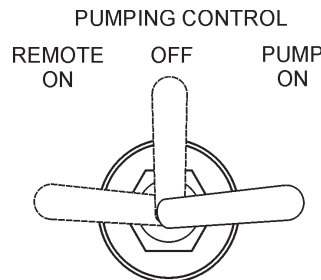

Figure 24. Pumping Control Switch (ON)
9. To begin pumping concrete. Place the pumping control switch (Figure 24) in the **ON** position